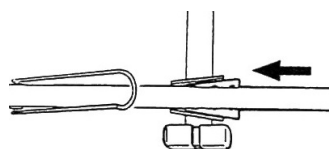

FIG. 7
- Slide the tapered plates on the crossarms into the tapered sockets on the cradle. (Figure 7)